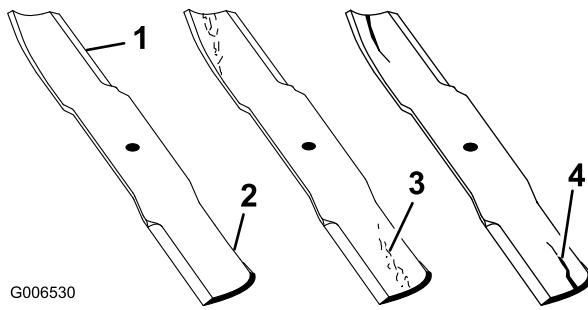

Figure 52
1. Inspect the cutting edges (Figure 52).
2. Inspect the blades, especially the curved area (Figure 52).
Note: If you notice any damage, wear, or a slot forming in this area (item 3 in Figure 52), immediately install a new blade.